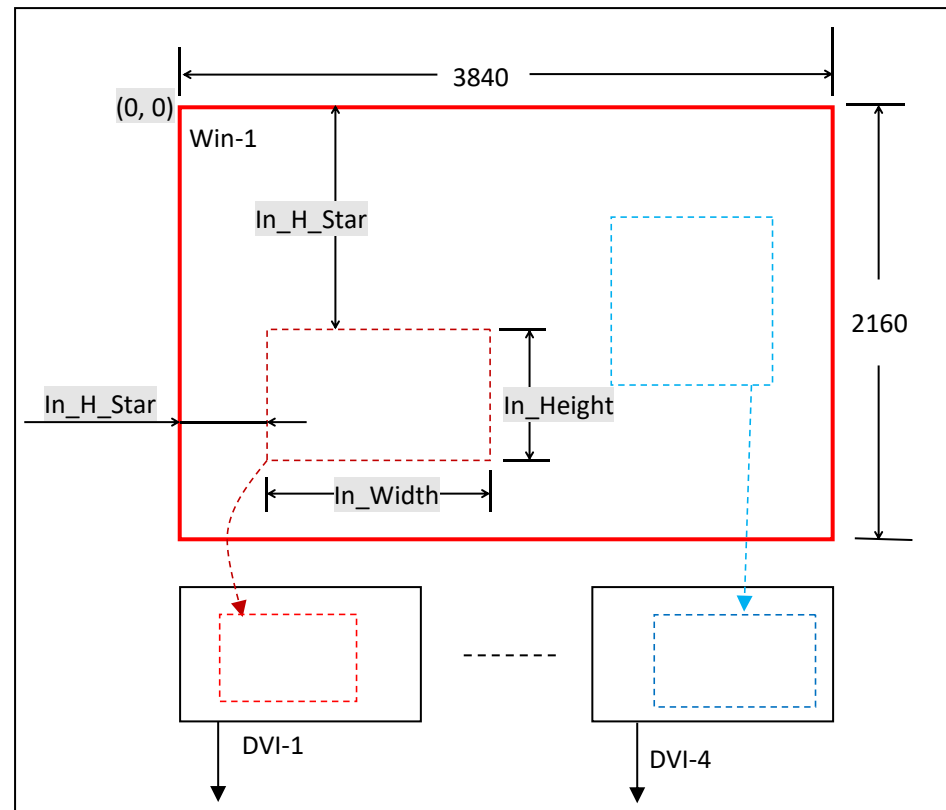

Figure 4-5
5.1) **A65** provides 4 DVI splicing, each DVI support random size&position cropping of input 3840\*2160 image. As Figure 4-5, DVI-1 display cropped image in red dotted frame, DVI 4 display cropped image in blue dotted frame